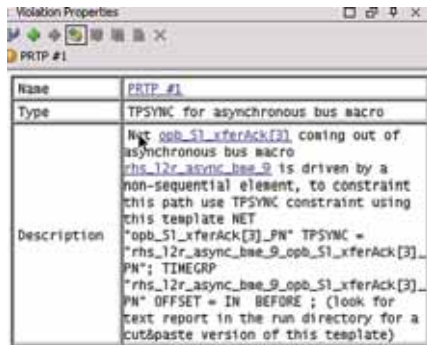

Figure 6 – Special consideration should be given to timing-critical paths, which include an asynchronous path.
4. Timing Advisor/DRC. This provides a check for timing-related issues. One example of timing DRC is the PRTP check. The static module is implemented before the PRM during the implementation phase. Regular timing constraints do not cover the paths that cross between the static and a PRM. This does not present a problem, provided that the bus macro is synchronous. However, if it is an asynchronous bus macro, the static module does not know about the propagating of asynchronous paths, as shown in Figure 6. This could be important if these paths are timing-critical. One way to pass this information to the static module is to specify a TPSYNC constraint on the bus macro output net. PlanAhead software will recommend a TPSYNC constraint that can be added to the .UCF file.